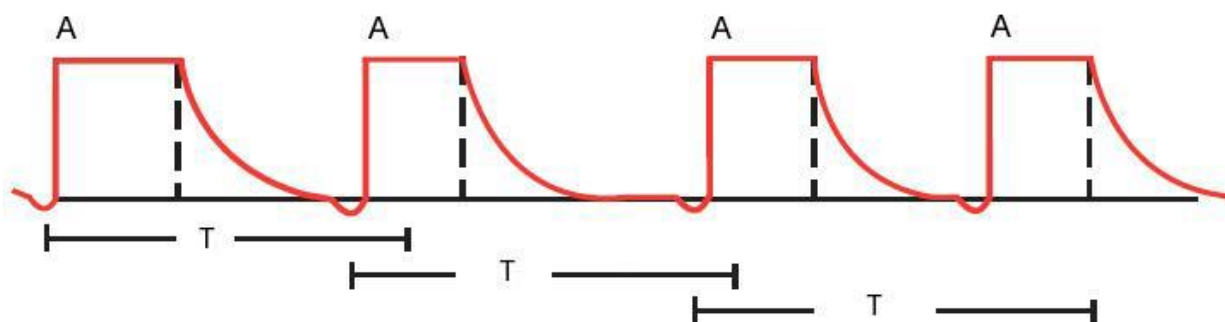

Figure 18.2 - A/C mode, all breaths initiated by the patient
Figure 18.2 illustrates the mechanism for the delivery of breaths in the case when the ventilator detects attempts of inhalation of the patient, i.e. when the trigger works (for flow or pressure, depending on the type of trigger selected). In the situation shown in this figure, all breaths are initiated by the patient, i.e. **Assisted-breaths (A)**.